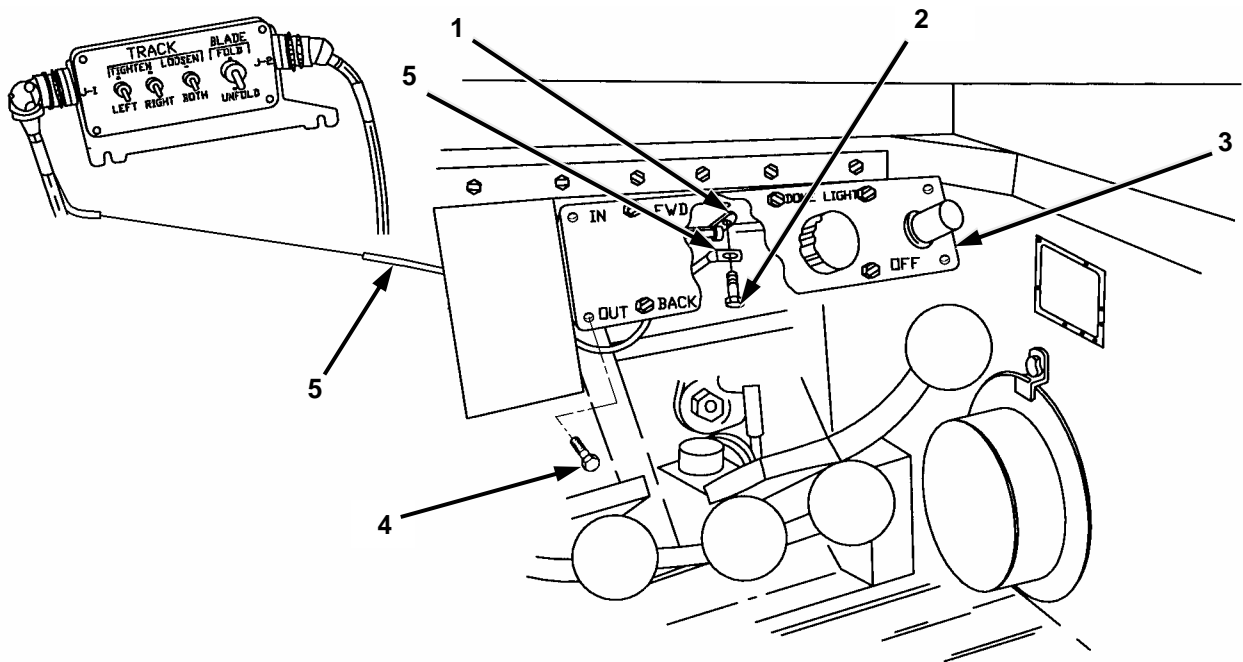

Figure 2-42. Control Box Ground.
19. Install control box power harness ground terminal (Figure 2-42, 5) with bilge pump light ground (1) with screw (2).